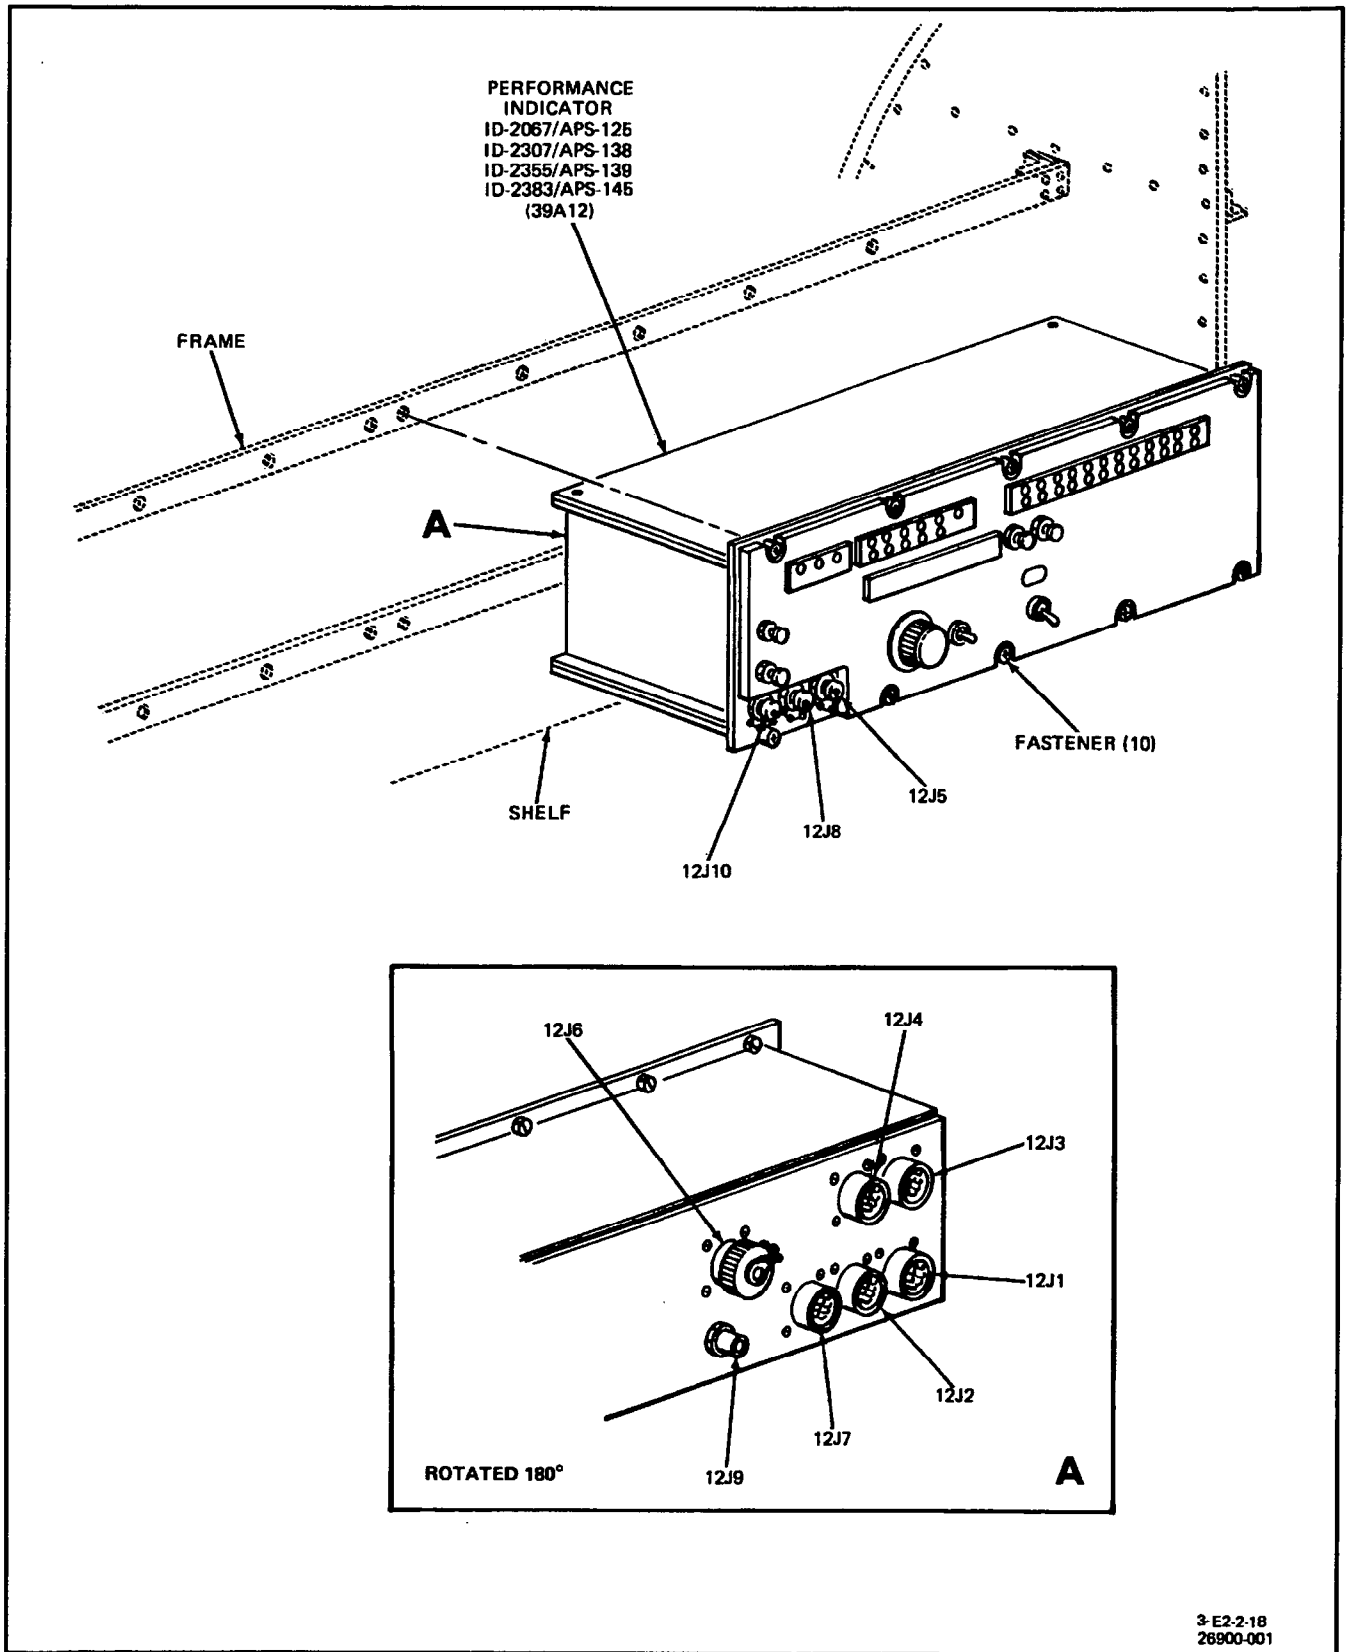

Figure 1. Removal and Installation of Performance Indicators ID-2067/APS-125, ID-2307/APS-138, ID-2355/APS-139, and ID-2383/APS-145
**4. INSTALLATION. (Figure 1.)**